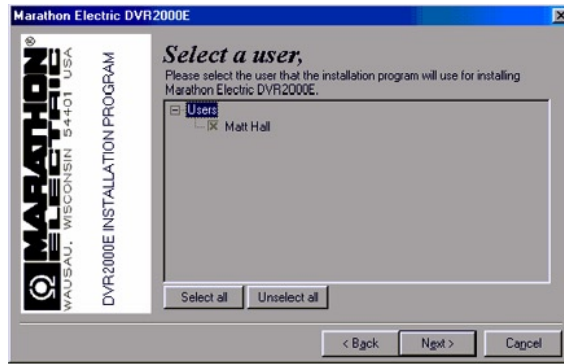

Figure 6-4. Select A User Screen
4. Select all of the software files for installation by clicking the **Select all** button. Click the **Next>** button to proceed to the Select A User Screen (Figure 6-4).